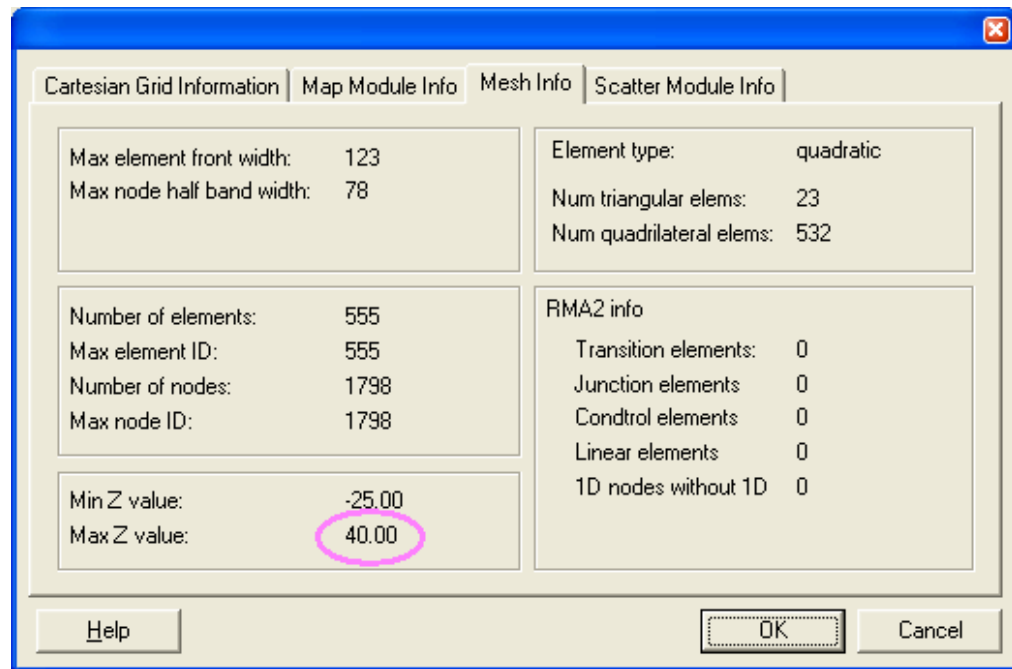

Figure 10-6. Mesh Information dialog.
2. In the *Mesh Info* tab, look at the *Max Z value*, highlighted in Figure 10-6.